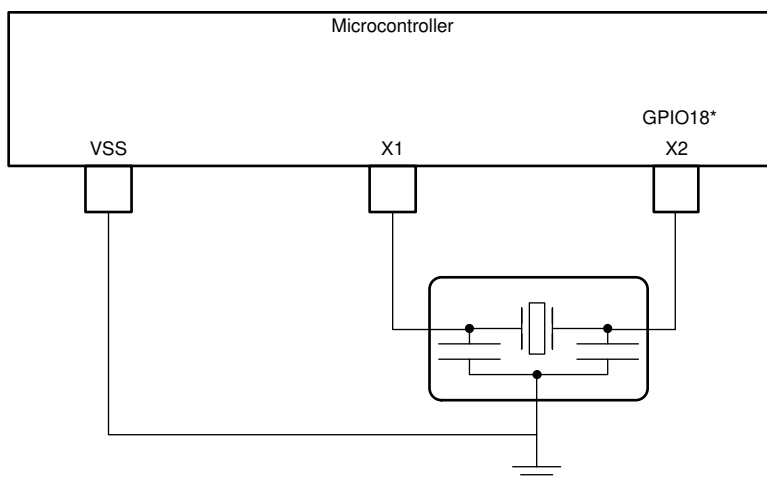

图 7-14. External Resonator
- An external resonator. The resonator should be connected across X1 and X2 with its ground connected to VSS as shown in 图 7-14.